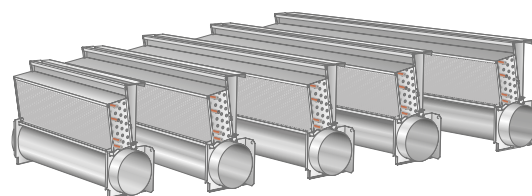

Figure 5. Range available on order.
Length: 600, 800, 1000, 1300 and 1600 mm, (figure 5)
- Primo with front position distribution pipe (figure 5).